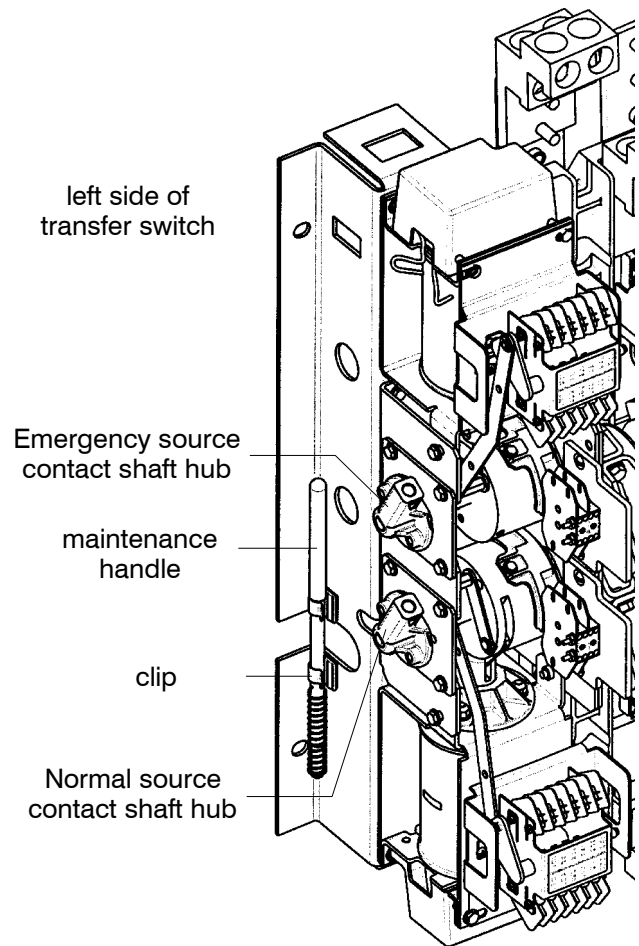

Figure 1-3. Maintenance handle storage location. Hubs shown with Normal closed & Emergency open.
1. After deenergizing both power sources, open the enclosure door. Locate and remove the maintenance handle from the clips on the left side of the transfer switch frame. Insert the handle into the hole in the molded hub on the left side of the operator. See Figures 1-3 through 1-5 and Table B.